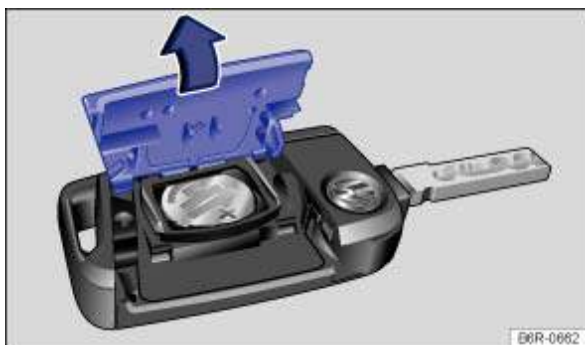

Fig. 24 Vehicle key: opening the battery compartment
- Pull up the cover on the rear side of the vehicle key → *Fig. 24* in the direction of the arrow → .
- Fit the cover as shown → *Fig. 24* and push it onto the vehicle key housing against the direction shown by the arrow until it engages.